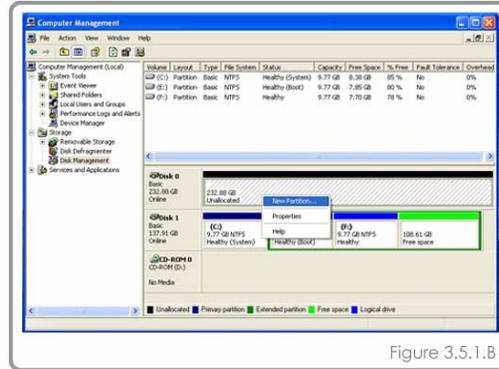

Figure 3.5.1.B
6. The **New Partition Wizard** dialog box will appear, click **Next** to continue. (Figure 3.5.1.C)